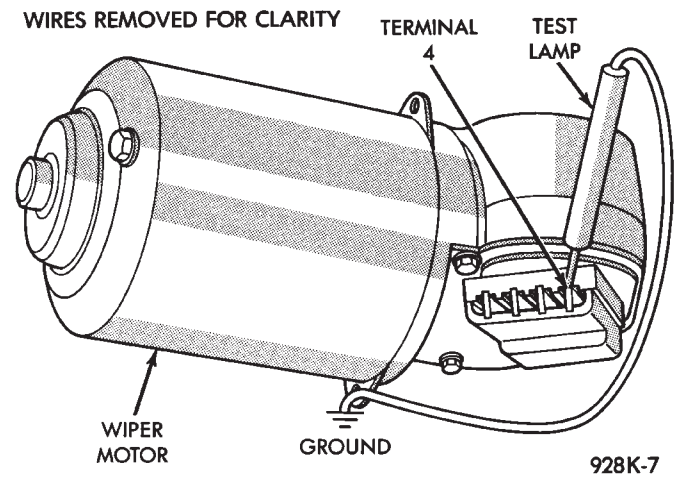

Fig. 10 Test Lamp Between Terminal 4 and Ground
(1) If motor will not run on high speed, put switch in HIGH position and connect a test lamp between motor Terminal 4 and ground (Fig. 10).
(2) If motor will not run on low speed, put switch in LOW position and connect a test lamp between motor Terminal 3 and ground.
(3) If test lamp does not light at motor terminal, there is an open in wiring or switch. If test lamp lights at motor terminal, replace motor assembly.